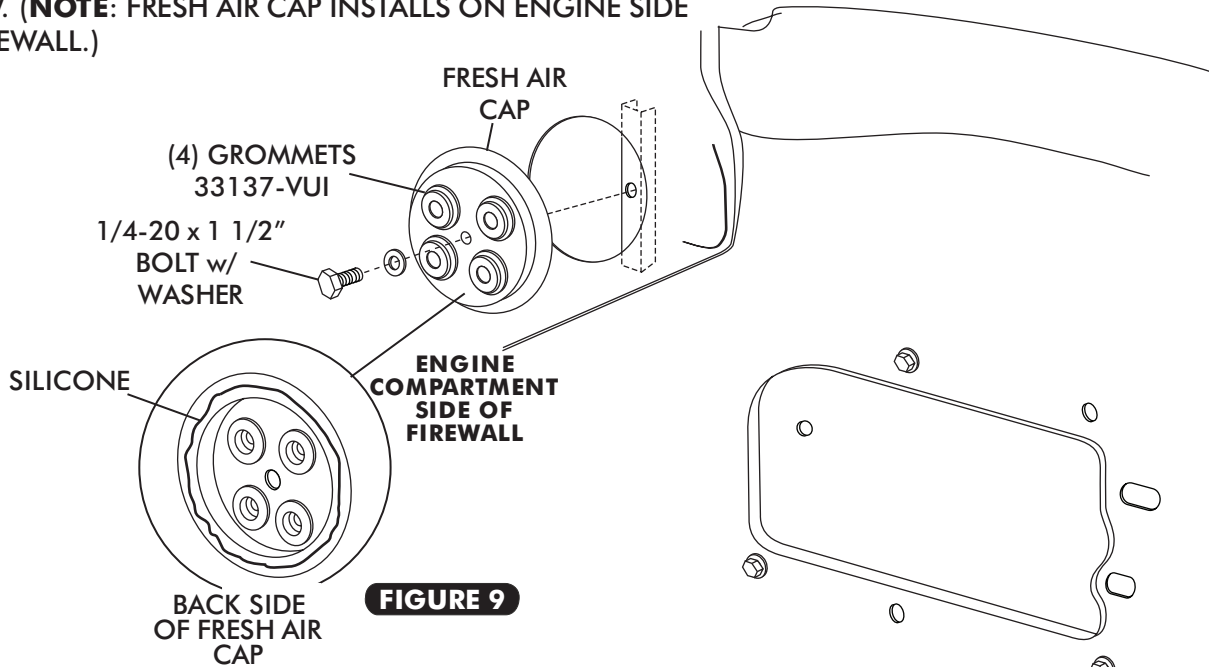

FIGURE 9
- INSTALL (4) GROMMETS IN FRESH AIR CAP. SEE FIGURE 9 BELOW
- APPLY A 1/4" BEAD OF SILICONE AROUND THE BACK SIDE OF THE FRESH AIR CAP AS SHOWN IN FIGURE 9 BELOW.
- ATTACH FRESH AIR CAP TO FIREWALL USING A 1/4-20 x 1 1/2" BOLT AND WASHER, SEE FIGURE 9 BELOW. (**NOTE:** FRESH AIR CAP INSTALLS ON ENGINE SIDE OF FIREWALL.)